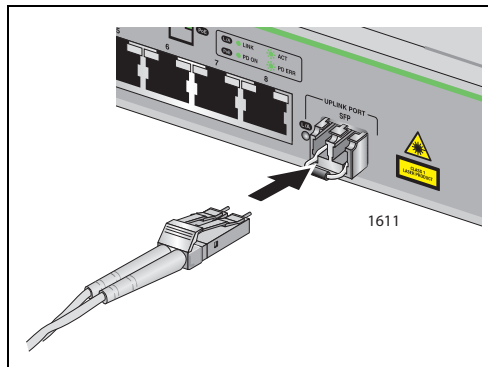

Figure 12. Connecting Fiber Optic Cables to the SFP Transceiver
2. Connect the fiber optic cable to the SFP transceiver, as shown in Figure 12.